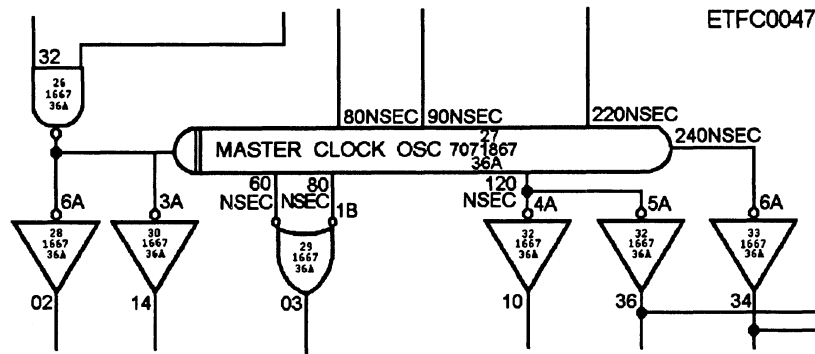

Figure 4-39.—Example of a delay line oscillator.
Oscillators are used in computer timing circuits for their **output** and **frequency** stability characteristics. The more important quality of the two for use in computers is their frequency stability. The speed of a clock is determined by the oscillator using a resistance-capacitance (RC) or inductance-capacitance (LC) network and/or crystal combination. An oscillator can use bipolar or MOS technology. Crystal-controlled oscillators are used in computers because they are stable even at extremely high frequencies. Master clocks in computers often use an oscillator with a delay line to deliver the basic clock phase and any additional clock phases. See figure 4-39.